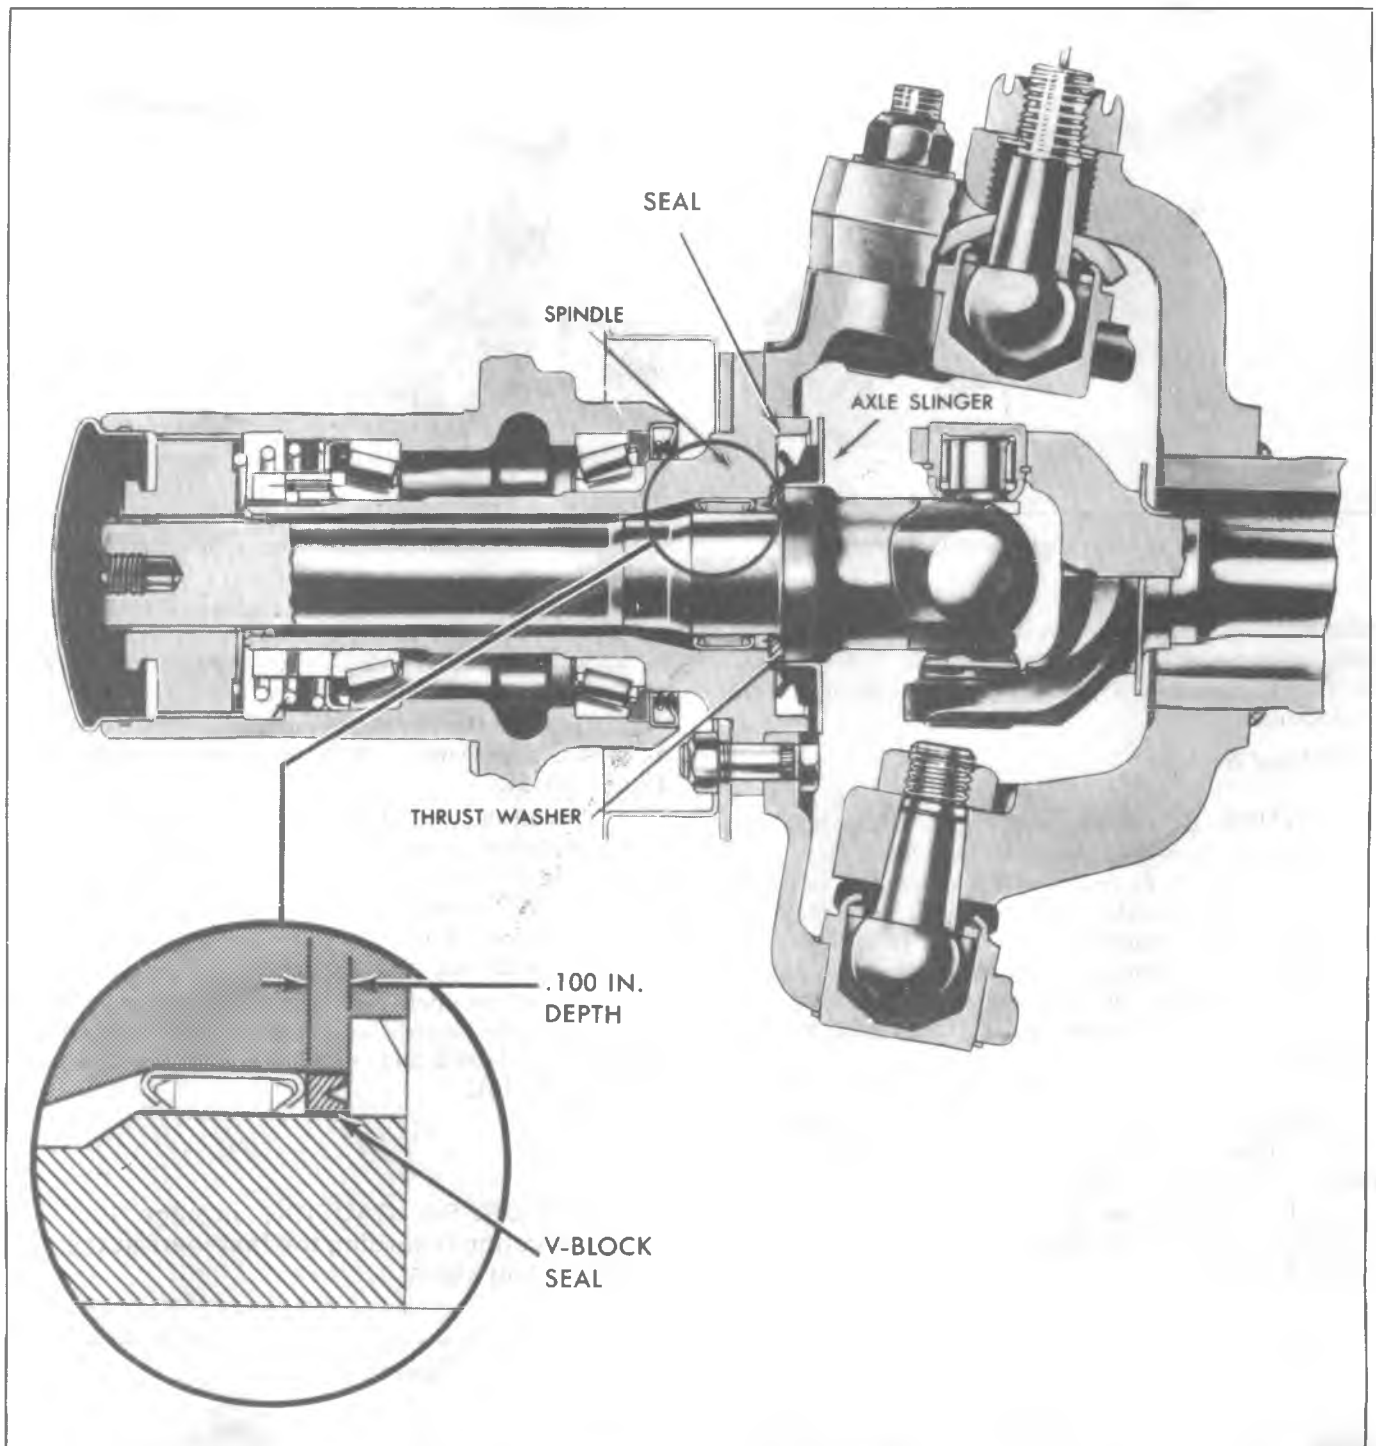

Fig. 3C-8K--Front Spindle Grease Seals
1. Install the bronze thrust washer over the axle shaft with the chamfer toward the slinger and install the spindle as shown in Figure 3C-9K.